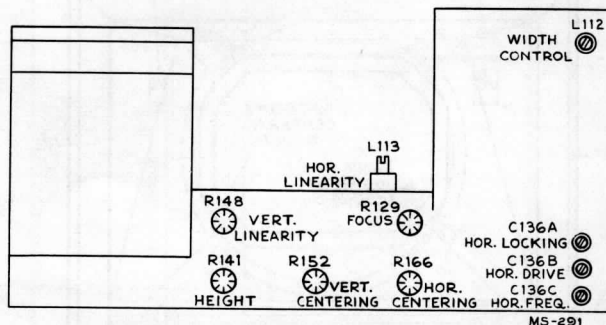

Figure 6—Rear Chassis Adjustments
**FOCUS COIL ADJUSTMENTS**—Turn the centering controls R152 and R166 to mid position. See Figure 6 for location of these rear apron controls.